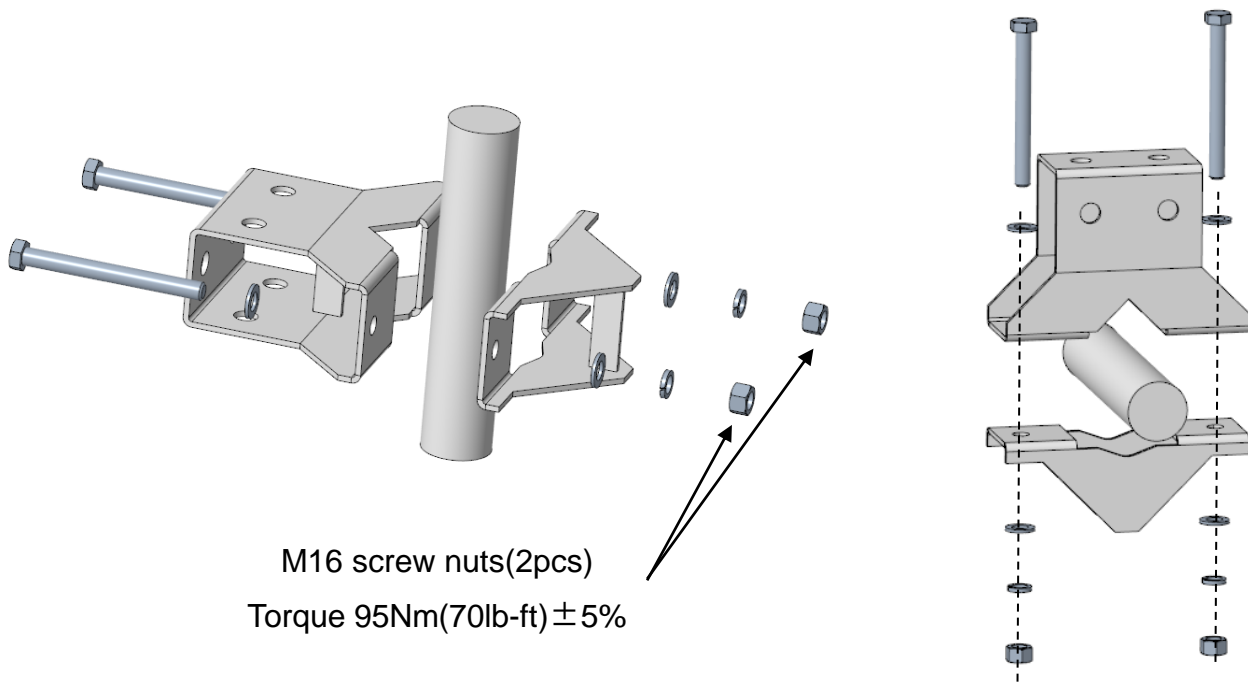

Figure1
2. Figure 1 shows the horizontal and vertical installation methods for pole. Diameter range of pole is $\Phi 51\text{mm} \sim \Phi 120\text{mm}$. Figure 2 shows two methods for Angle Iron. Specification range of Angle Iron is $40 \times 40\text{mm} \sim 125 \times 125\text{mm}$. Customer can choose a method according to the installation site.